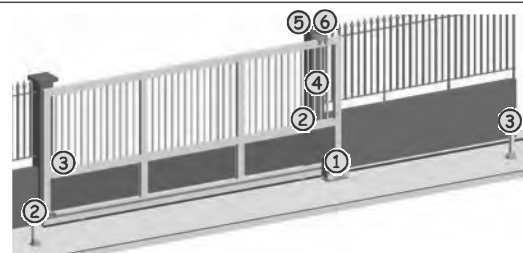

Fig. 3
4. Prepare the electrical cables for connection to the accessories and the electrical power supply as shown in Fig. 3.
Observe points 10, 11, 12, 13 and 14 of the GENERAL SAFETY RULES. Follow the instructions in Fig. 3, route the cables in the raceways and make the electrical connections to the selected accessories. Always separate power cables from control and safety cables (push-button, receiver, photocells, etc.). To prevent any electric noise whatever, use separate sheaths.